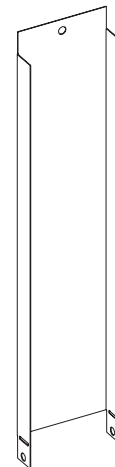

Figure 19
7. Locate the steel standoff brackets under the burner cover. See **Figure 19**.